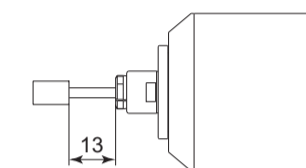

Fig. 12
- ① The proper surface speed for general grindstones is 10-30m / s.
- ② Do not exceed 13mm of overhang for mounted grindstones as shown in Fig. 12. If the overhang must exceed 13mm, reduce the motor speed in accordance with Table. 3.
- ③ Dress the grindstone prior to use.
- ④ Do not use cutting tools with bent or broken shanks, cracks or excessive run-out.
- ⑤ For grinding, the maximum depth of cut should not exceed 0.01mm radially or axially. Reciprocate the tool several times after each pass to eliminate tool pressure.
- ⑥ Always operate cutting tools within the allowable recommended speed of the cutting tools. Use of a cutting tool outside of the allowable speed of the cutting tools could cause damage to the Spindle and injury to the operator.
- ⑦ Keep the cutting tool shank and collet clean. If contaminants are left in the collet or collet nut, excessive run-out will cause damage to the cutting tool and or Spindle.
- ⑧ Do not strike or disassemble the Spindle.
- ⑨ Please set the cutting tools to minimize the overhang amount. 13mm is the maximum amount of overhang to maintain high accuracy and safety.